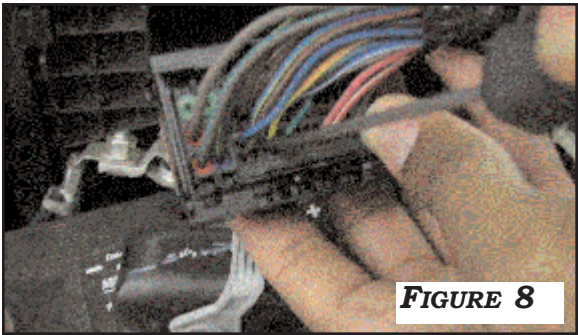

FIGURE 8
- 9. USE PRECISION TOOL TO BREAK PLASTIC INSERT IN OPENING OF **PIN 13, 26 AND 27** OF CONNECTOR (**FIGURE 8**). THEN PUSH OUT REMAINS ON REVERSE SIDE AS SHOWN IN **FIGURES 9-10.**